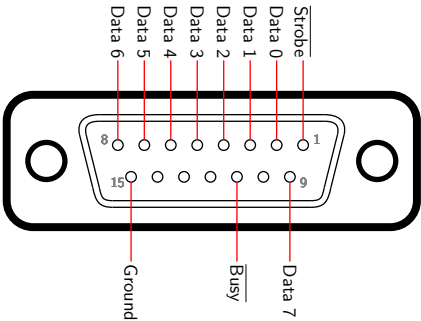

Figure 4.1: DB-15 male connector (solder side).
1. Solder the pins of the male double-row DB-15 connector as shown in Figure 4.1. Note that the pin numbers shown in the diagram are for the solder side of the connector.